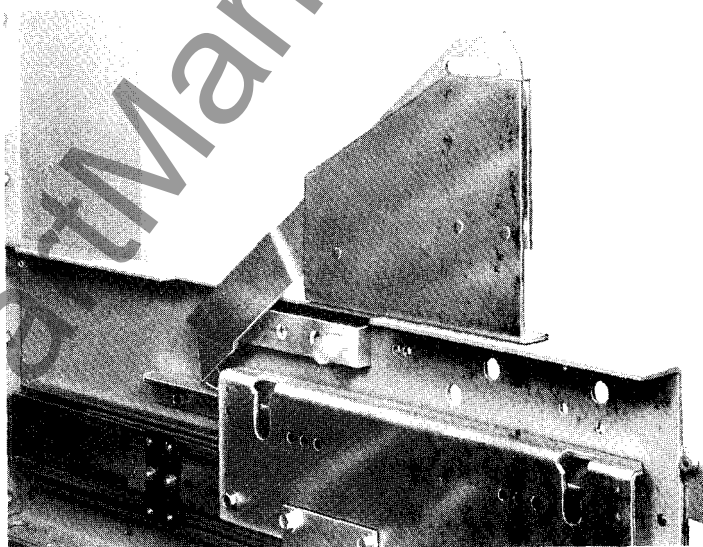

Fig. 1 Padlock accessory 343L689G1.
1. Install the padlock assembly to the right-hand substructure channel using the hardware provided. See Fig. 1, 2 or 3.